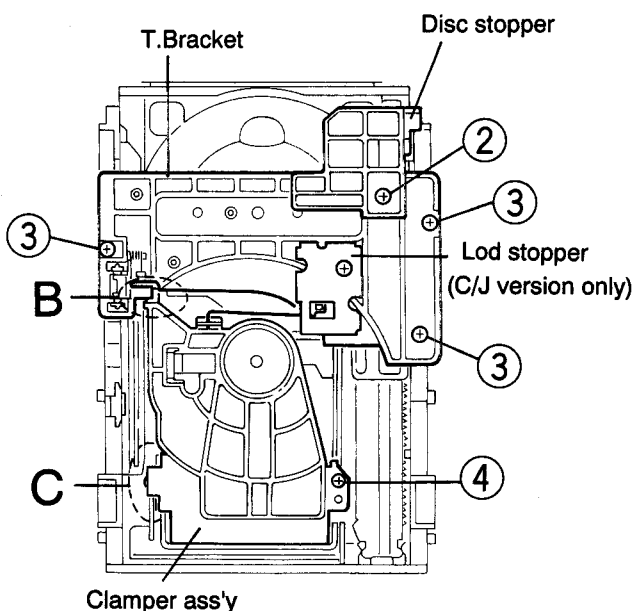

Fig.5-37
5. Remove the screw ② retaining the Disc stopper (See Fig. 5-37).
6. Remove the three screws ③ retaining the T. bracket (See Fig.5-37).
7. Remove the screw ④ retaining the clamber assembly (See Fig. 5-37).